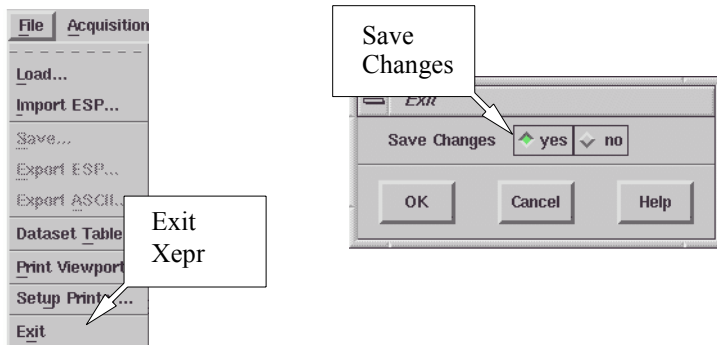

Figure 15-7 Saving the changes and exiting.
7. **Exit Xepr.** Click **File** and then **Exit** in the menu bar. A dialog box appears asking you if you want to save the changes. Click **Yes** and then **OK** to exit Xepr program. (See Figure 15-7.) Next time you launch the Xepr software, you will find the **Server Name** appearing in the **Connect to Spectrometer** dialog box. The printer will be ready to print.